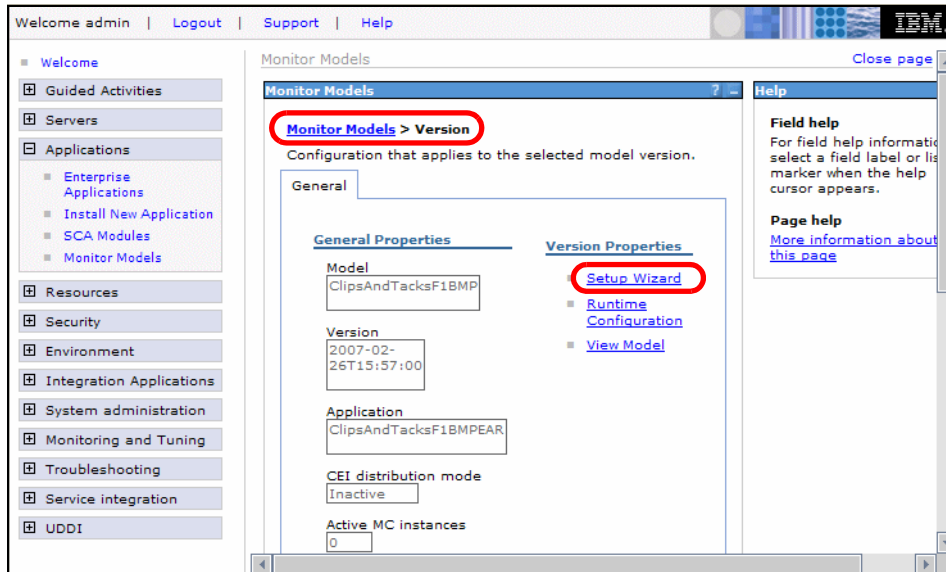

Figure 12-76 Setup Wizard for monitor model application
- ▶ Click *Setup Wizard* under Version Properties to continue the configuration (Figure 12-76).